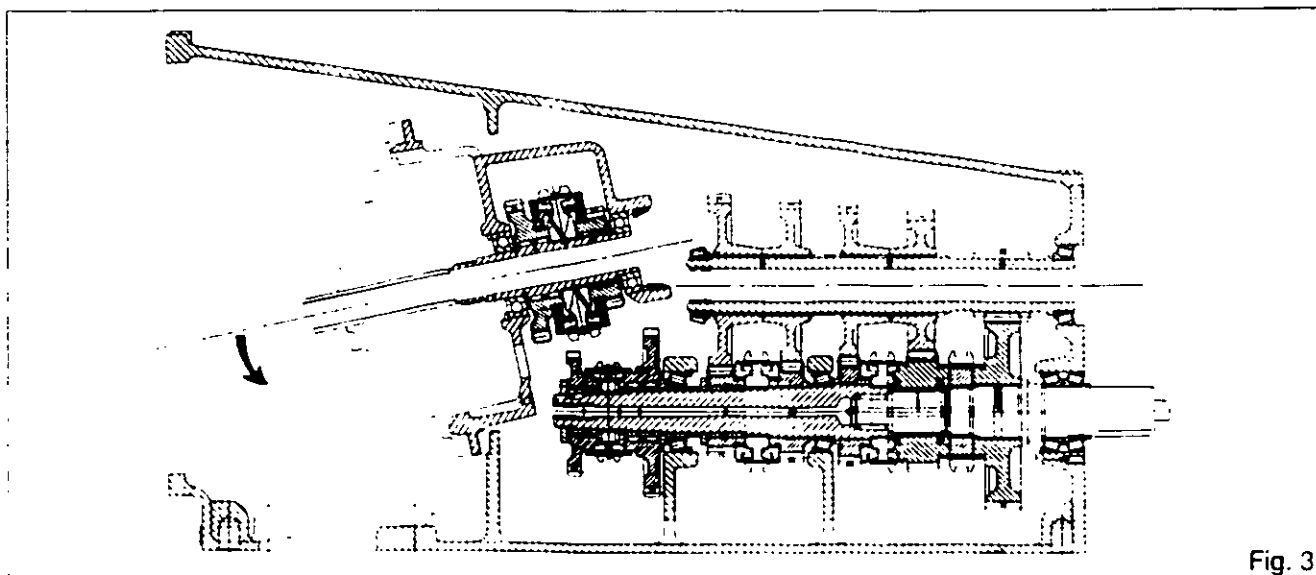

Fig. 3
7. Release and withdraw the input gearbox by tilting it forwards and down (Fig.3).